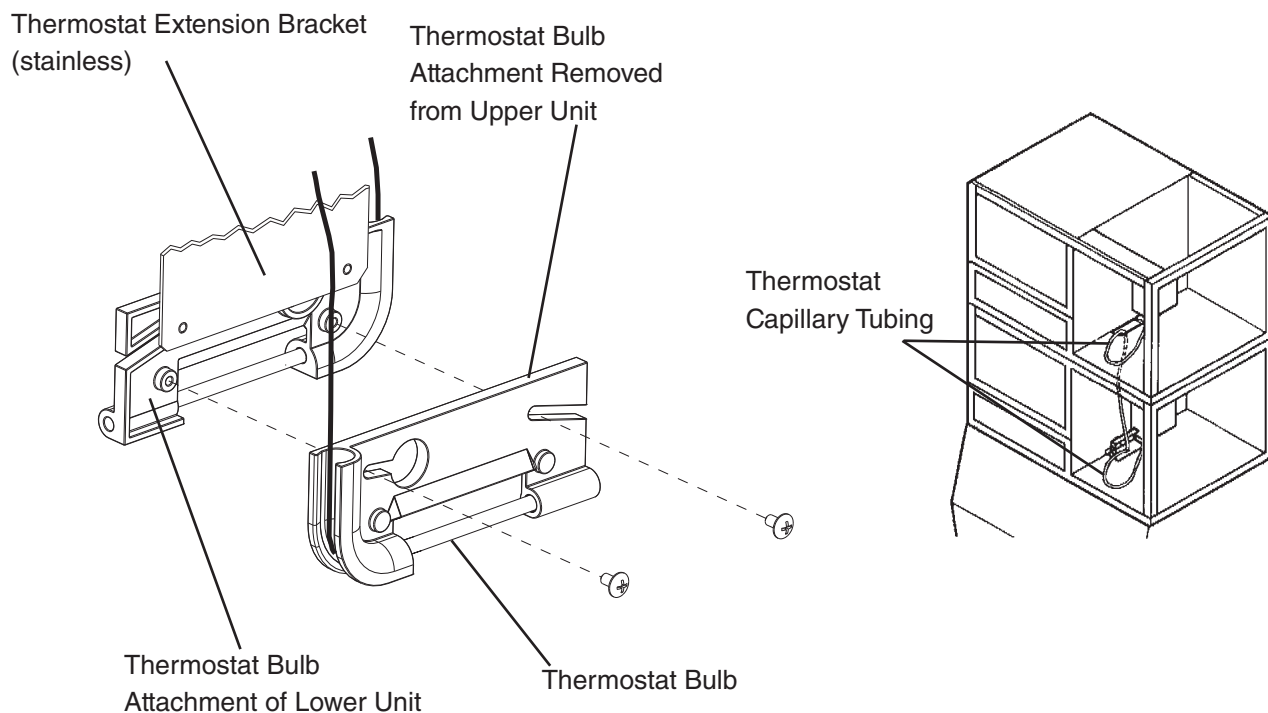

Fig. 7
- 14) Secure the thermostat bulb attachment (plastic) of the upper unit to the thermostat bulb attachment (plastic) of the lower unit with the screws of the upper unit. See Fig. 7.